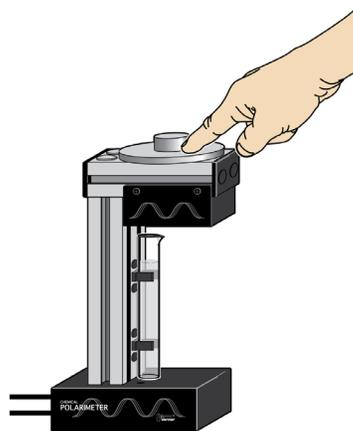

Figure 2: Rotation of the analyzer
- c. Start data collection and slowly rotate the analyzer clockwise or counterclockwise as shown in Figure 2 until data collection stops (15 s). Slowly rotating the analyzer produces smoother curves. **Note:** If you are using a LabPro interface, only rotate the analyzer while data collection is active. Allow a few seconds at both the beginning and ending of data collection without moving the analyzer.